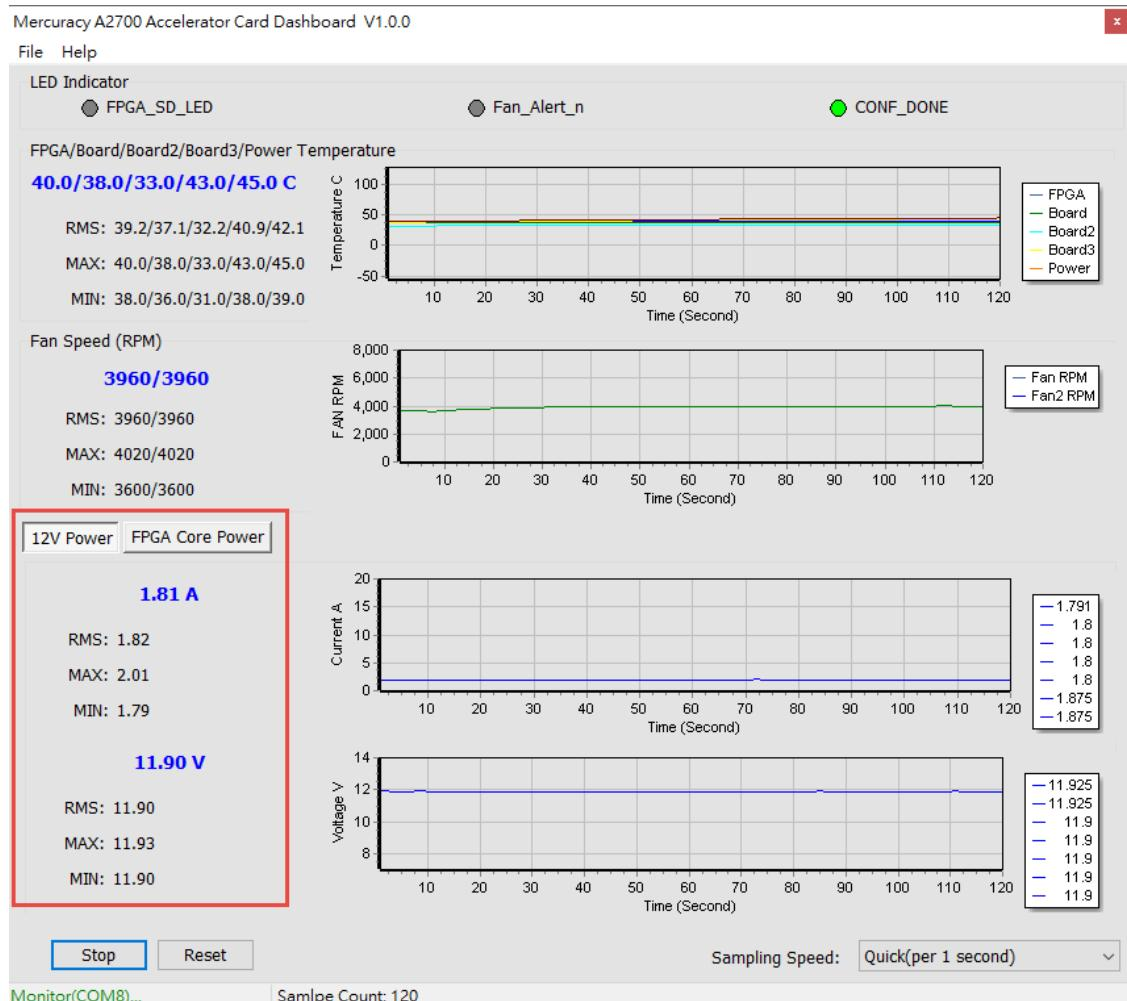

**Figure 4-11 FAN RPM section**
- **Fan RPM:** It displays the real-time speed of the **two** fans (Fan and Fan2 in the GUI) on the Mercury A2700 Accelerator Card, as shown in **Figure 4-11**.